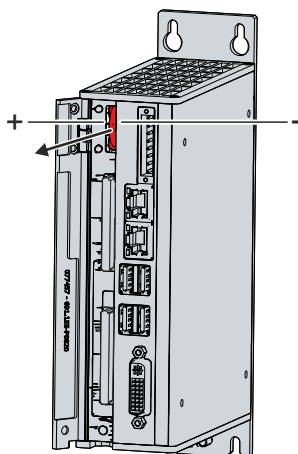

Fig. 19: Battery change
2. Insert the new battery into the PC by hand. Pay attention to the correct polarity. The negative pole of the battery must point towards the voltage socket of the industrial PC (see Fig. 19).